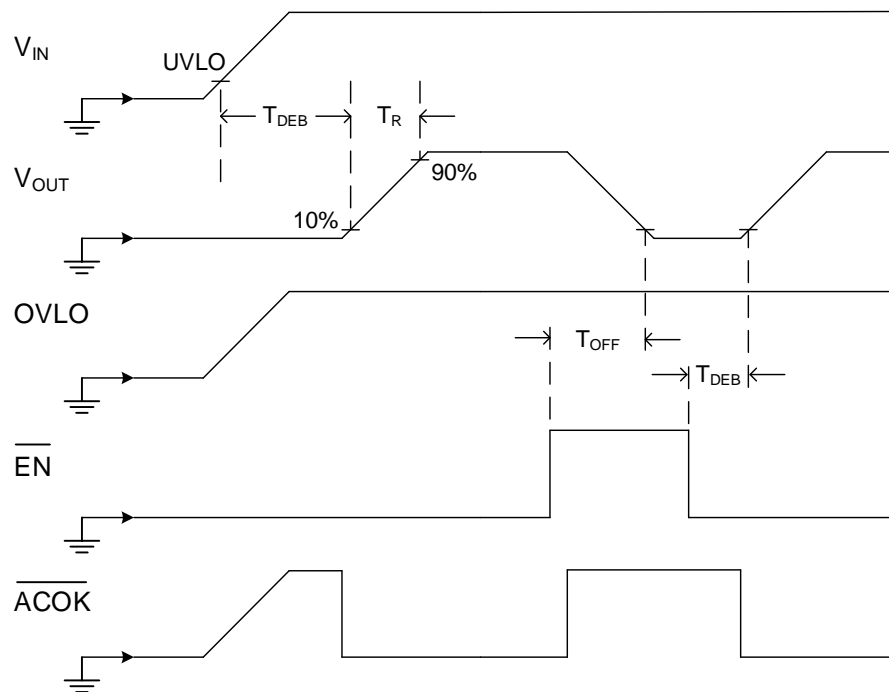

Figure 1. Ramp-up and \overline{EN} Toggling
9. Timing as defined in Figure 1.